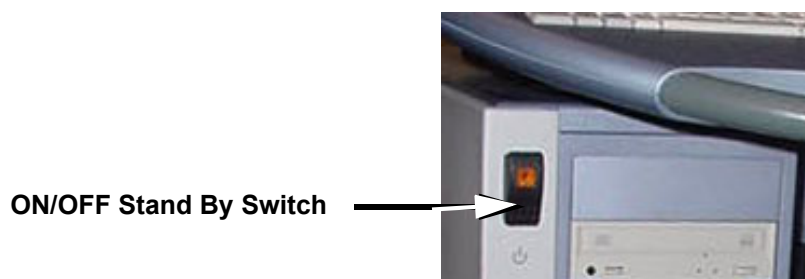

Figure 3-23 ON/OFF Standby Switch
- 1.) Press the **ON/OFF** Standby switch left below the Control Panel; see: Figure 3-23.